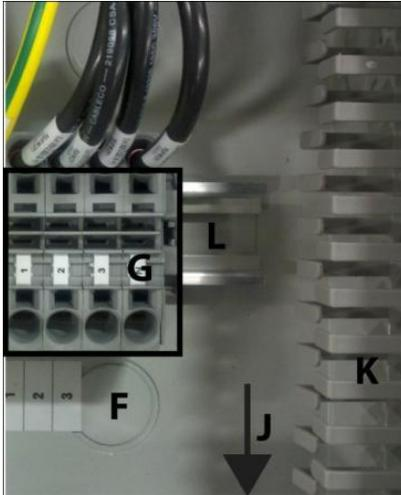

Figure 2.08 - Signal Wire Routing
- Route the cables through the switchbox and into the inverter chassis using plastic guide (item K, Figure 2.08).